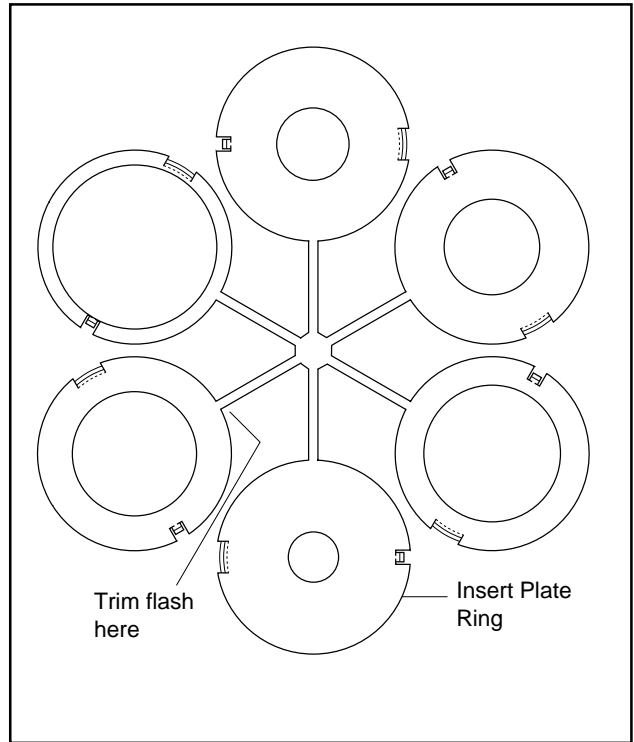

Fig. J.1
1. First separate all **Insert Plate Rings** from each other using a sharp knife and trim off all flashes, see fig. J.1.